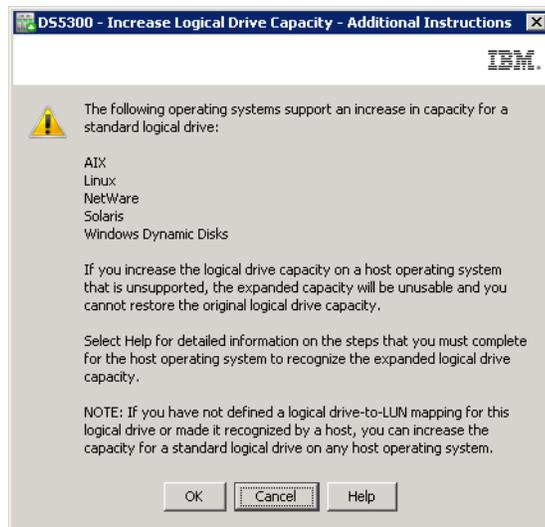

Figure 4-28 Increasing logical capacity
- To increase the logical drive capacity, on the Subsystem Manager Logical Tab, highlight the logical drive to be expanded, right-click it, and select **Increase Capacity**. A new information window will be opened summarizing which OS supports logical expansion, as shown in Figure 4-28.